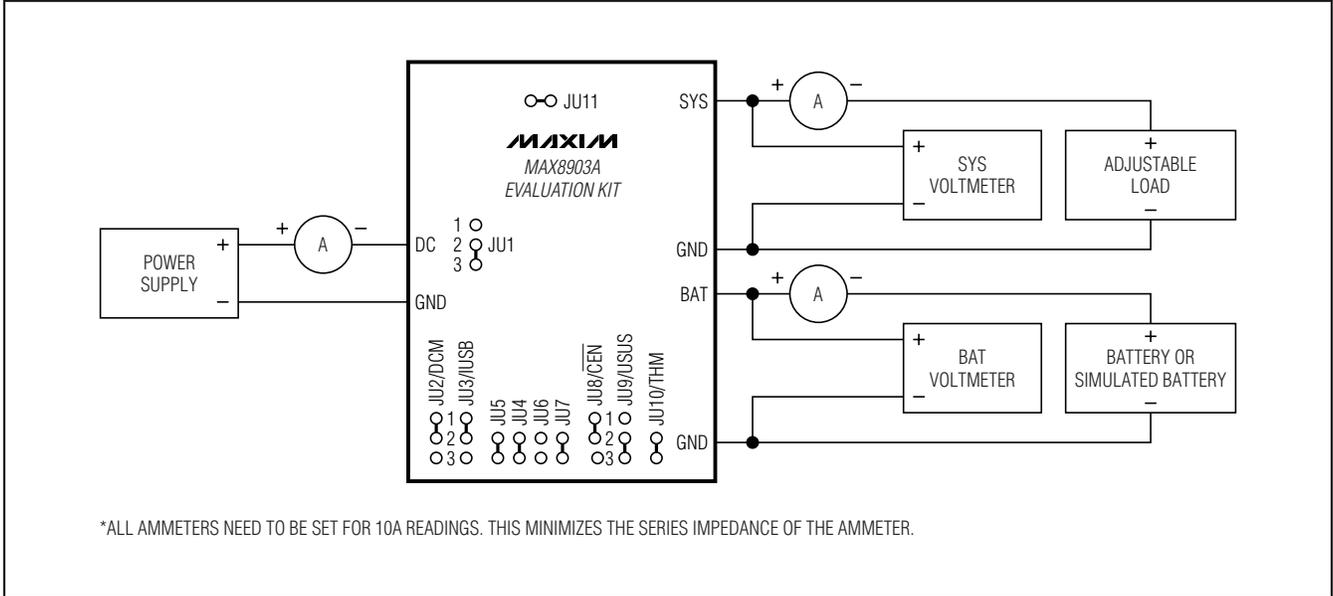

Figure 3. Connection Diagram and Default Jumper Connections
- 3) Connect the EV kit to the power supply, battery or preloaded power supply, adjustable load, and meters, as shown in Figure 3.
- 4) Ensure that the EV kit has the jumper settings shown in Figure 3 and Table 1.